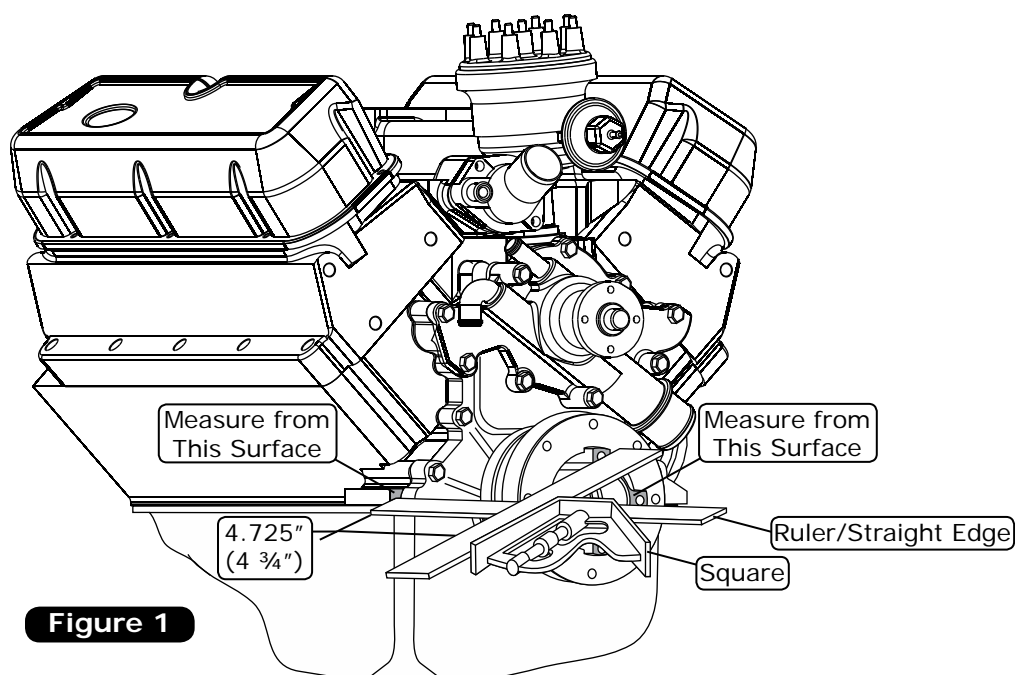

Figure 1
6. Remove the crankshaft pulley and the harmonic balancer. **NOTE: This system is designed to use the stock Ford harmonic balancer. Before removing the harmonic balancer, verify that the dimensions from the face of the block to the machined pulley mounting surface of the balancer is 4.725" (4 3/4"). Measure as shown in Figure 1, below (measure from the shaded surfaces). If using a Ford Motorsports balancer, a Ford Motorsports balancer spacer kit (199002-HFA) will need to be purchased from Vintage Air.**